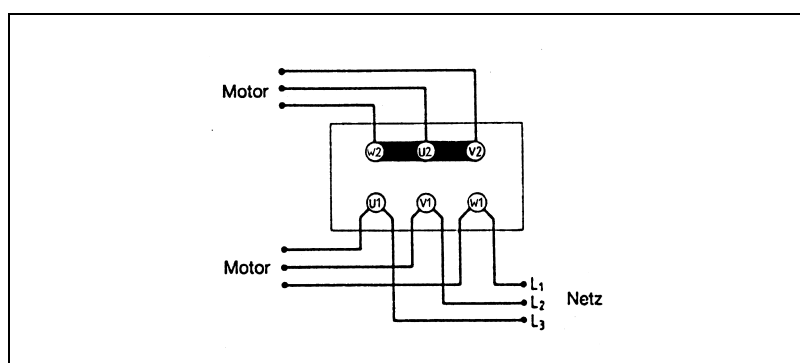

Fig. 17: Y-Connection (high voltage)
4. Connection of pumps with 3 phase motor according to figs. 17 or 18.